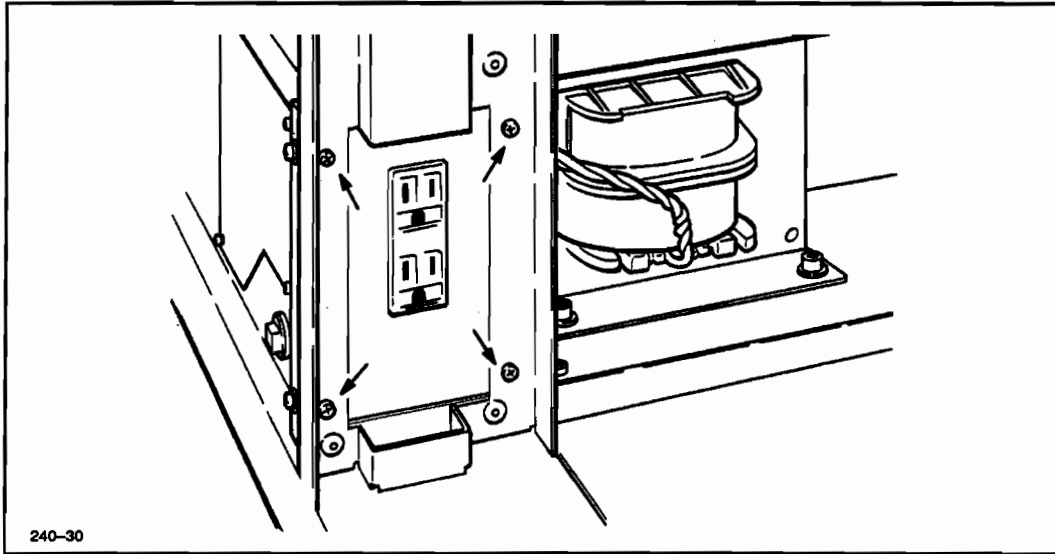

Figure 6-24. Outlet Ground Wire
5. Using a short #2 Phillips screwdriver, remove the outlet ground wire mounting screw. See Figure 6-24.
10. Using a #1 Phillips screwdriver, remove the four ac outlet mounting screws. See Figure 6-24.
3. Disconnect the ac outlet ground wire. See Figure 6-24.